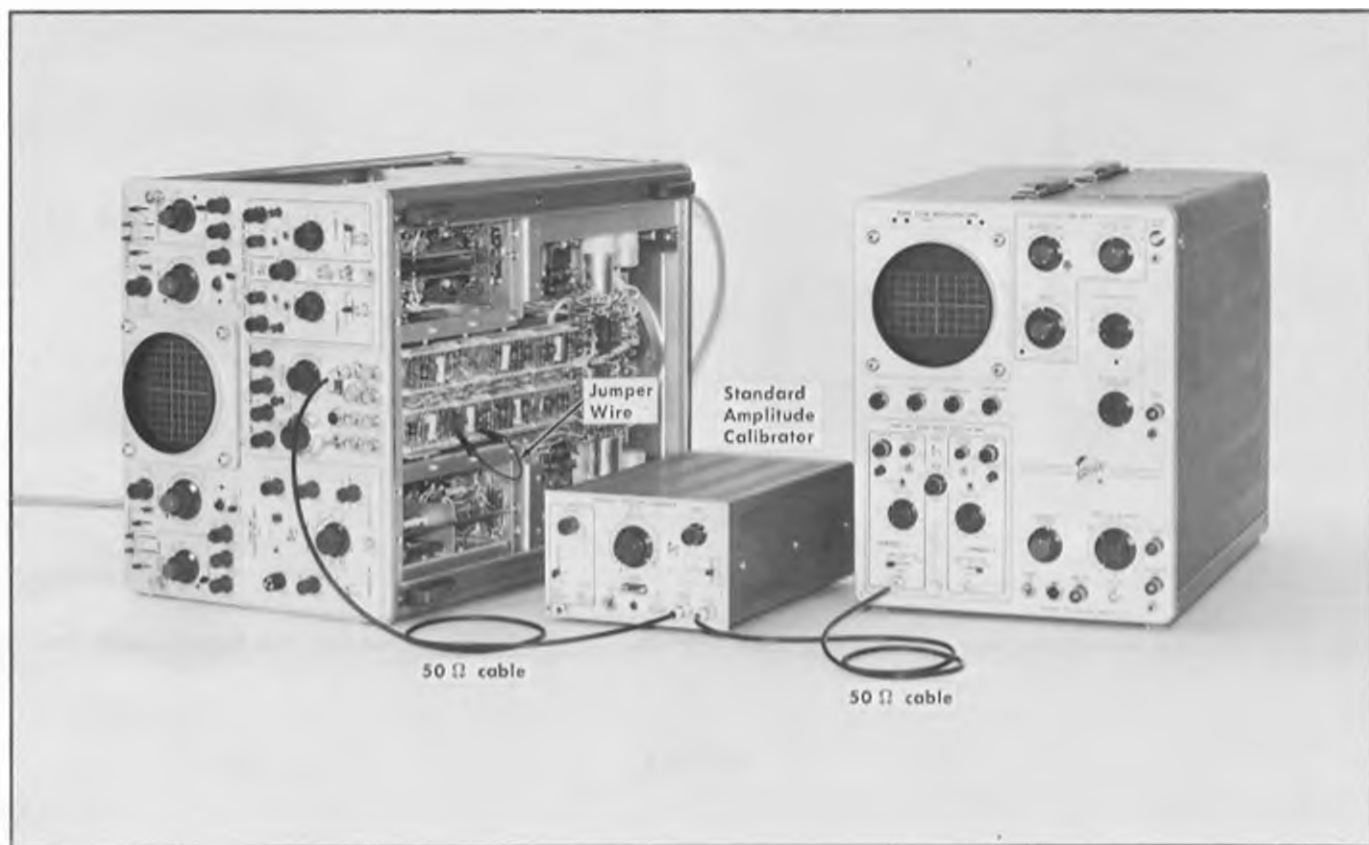

Fig. 6-12. Test setup for Amplitude Calibrator adjustment.
- a. Test equipment setup as shown in Fig. 6-12.